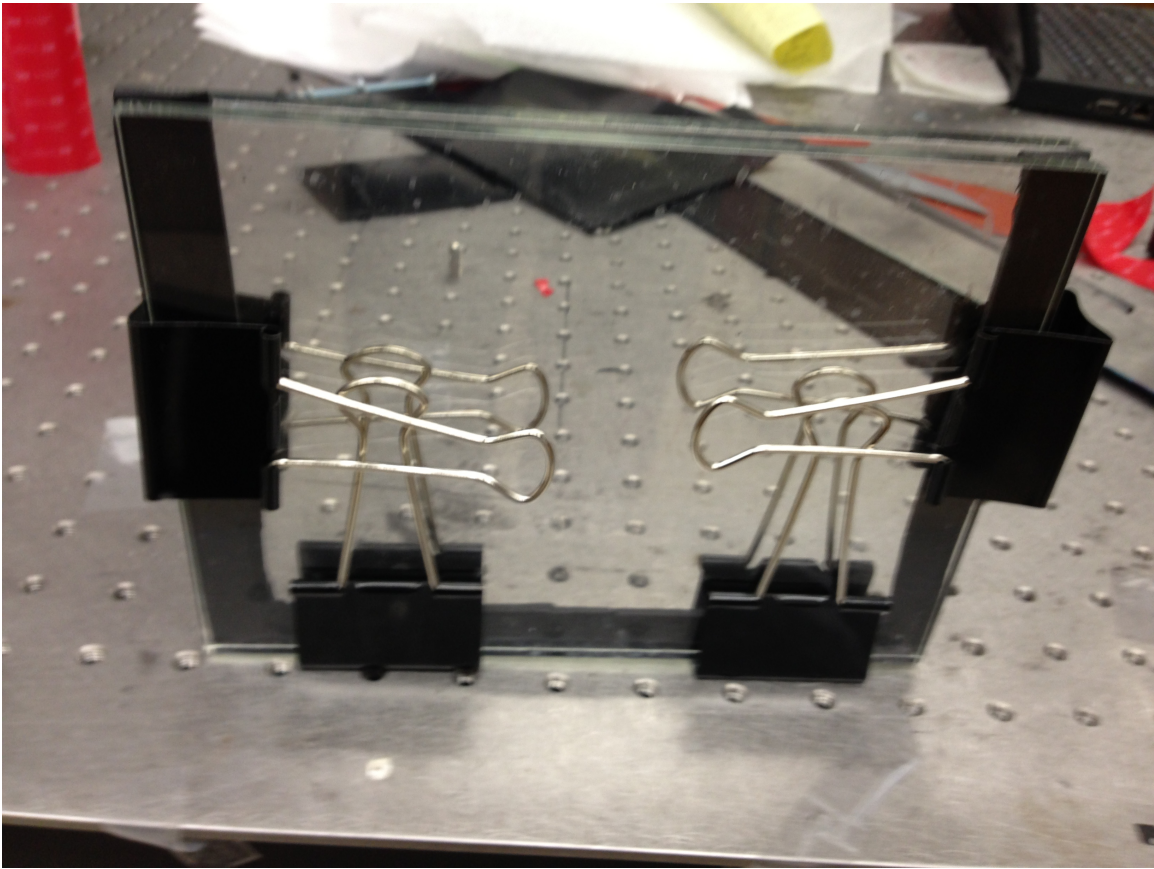

Fig1. Clipped glass sheets separated by rubber spacers
Step7: Sandwich three rubber sheets between two glass sheets along three lateral sides as spacers, leaving one side open. Secure the sealing of the three sides with vacuum oil. Clip two glass sheets together. **(Fig.1)**